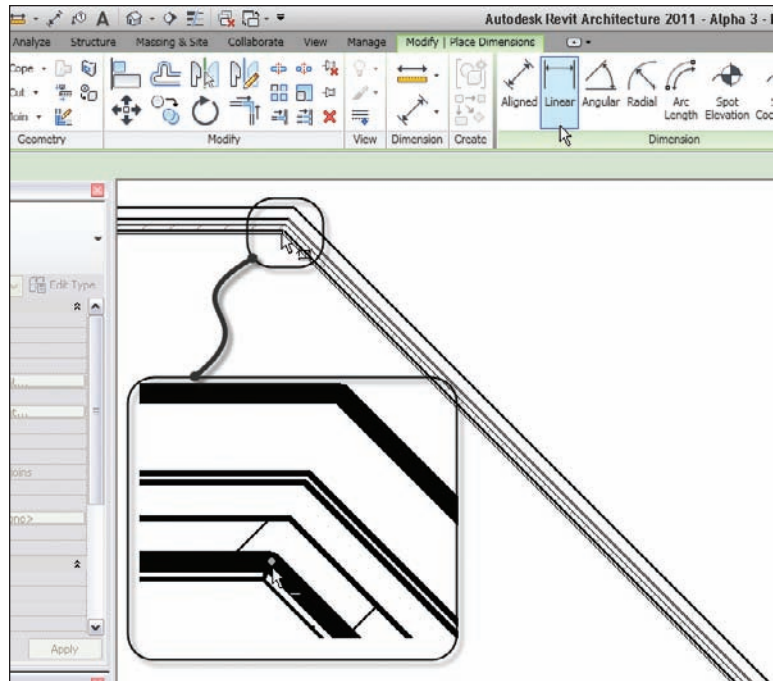

FIGURE 5.16 Selecting the finished exterior corner of the brick. You will see a small white dot appear, indicating you can pick the start of the dimension.
3. Move your cursor over the inside corner at the bottom intersection of the corridor, as shown in Figure 5.16. Make sure you are exactly over the exterior intersection of the brick. You will know you are there by the white dot that shows up, as shown in Figure 5.16.